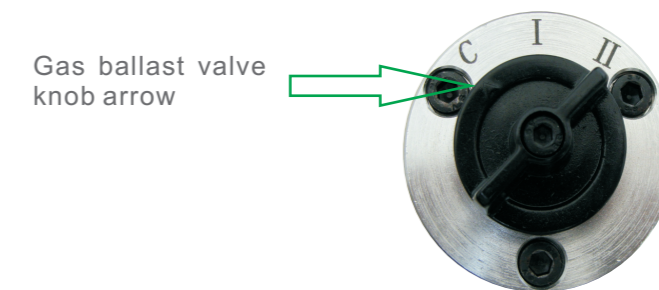

Fig. 7 Gas ballast valve knob
In the presence of permanent gases, the gas ballast valve knob (5/Fig.1) should be switched off (as Fig.7 gas ballast valve knob arrow C below). It may cause the rise of ultimate pressure (decrease of ultimate pressure) if open the gas ballast valve (5/Fig.1).
- When the vacuum system contains a small amount of condemnable gas, open the gas ballast valve (refer to Fig 7. gas ballast valve arrow I or II) , It can pump a small amount of condemnable gas effectively. Close the gas ballast valve when the vacuum system pressure reduced to a certain value.